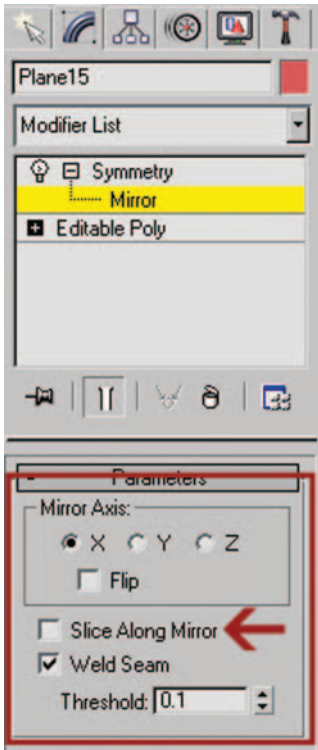

Figure 9.4 Symmetry modifier with Slice Along Mirror checkbox unchecked.
4. Add a Symmetry modifier, and uncheck the Slice Along Mirror checkbox (Figure 9.4).